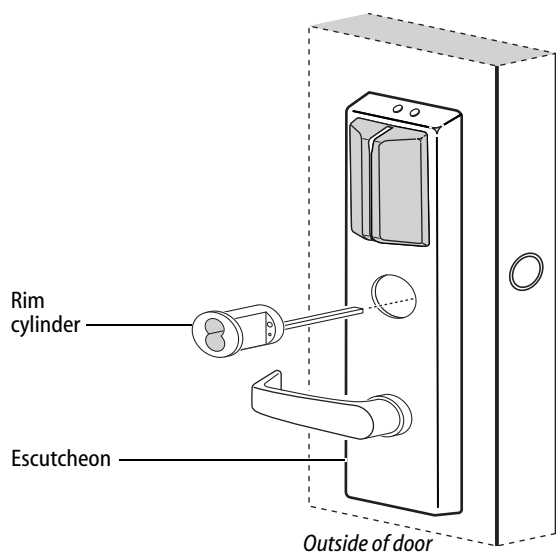

Figure 19 Installing the cylinder
- 2 Insert the cylinder through the cylinder opening in the escutcheon and into the door as shown in Figure 19.